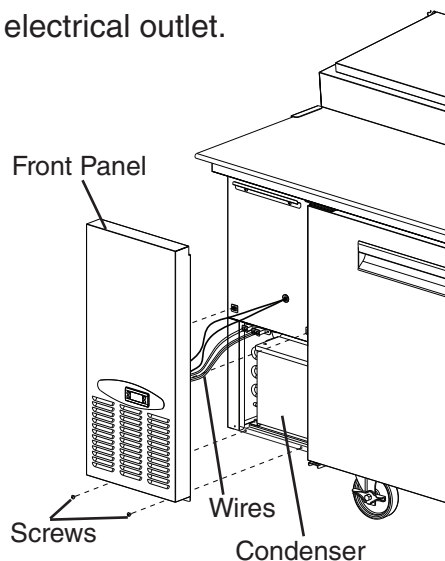

Fig. 39
- 2) Remove the screws securing the front panel, then pull and lift the front panel out slightly to remove it. See Fig. 39. **NOTICE! Be careful not to pull out the front panel too far because there are power wires and thermistor wires attached to the control module in the front panel.**